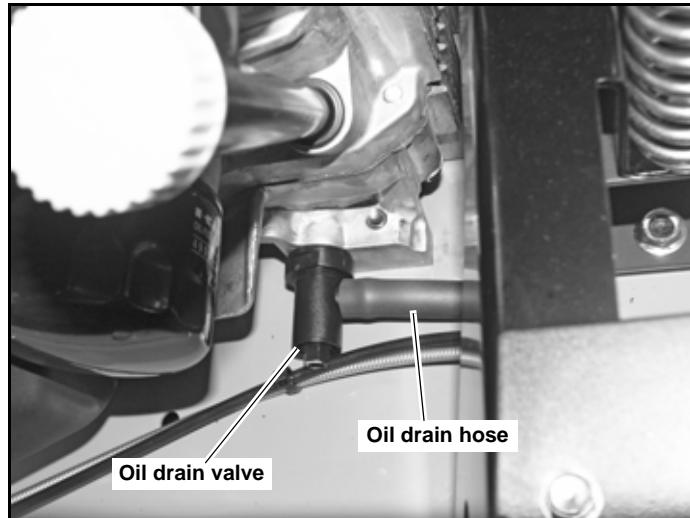

Figure 4-3
2. Locate the oil drain hose that was supplied with the machine. Be sure to clean and clear it of debris that might block the flow of the engine oil. Figure 4-3
- Clean the oil drain hose and store it appropriately. Figure 4-3